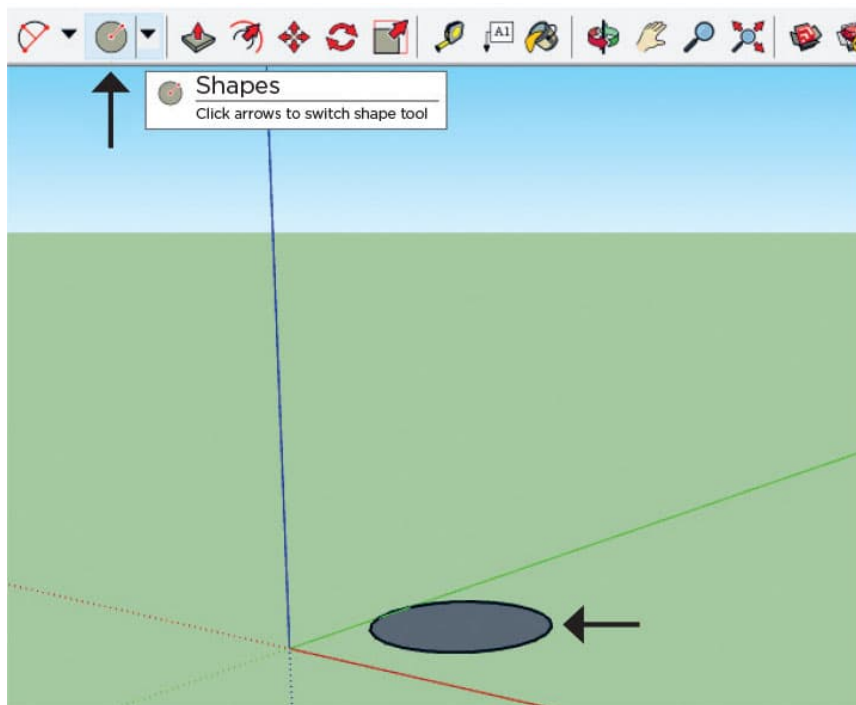

FIG. 4: Add a circle to the workspace using the **Circle** tool.
4. Now, to create a cylinder. Similar to step 1 above, select the **Circle** tool (fig. 4) and draw a circle so it lies flat on the workspace. Note that the outline of the circle will change color to match the axis it corresponds to.